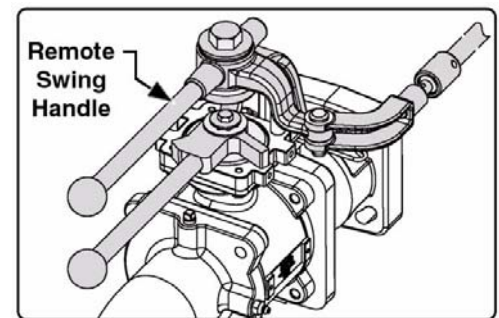

Figure 3: Remote Swing Handle
1. The **07** actuator option is a **4" lever** for use strictly with a top-mount controller or remote swing handle. (See Figure 3: "Remote Swing Handle.")